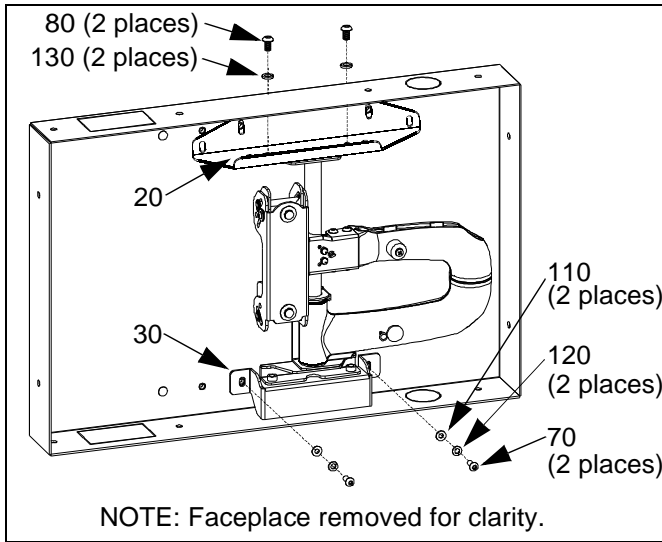
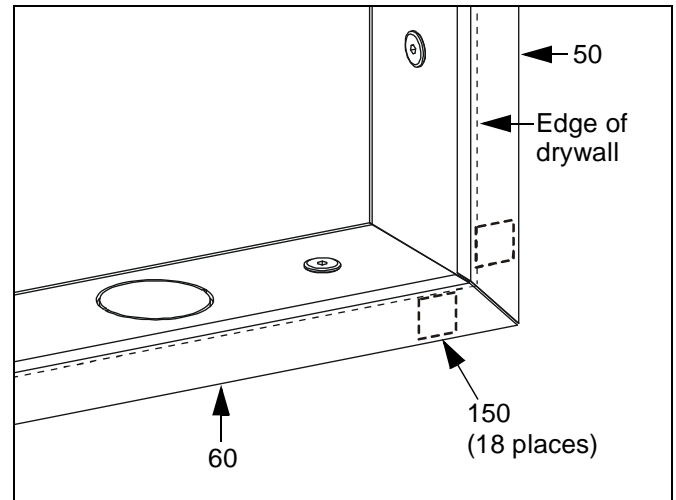
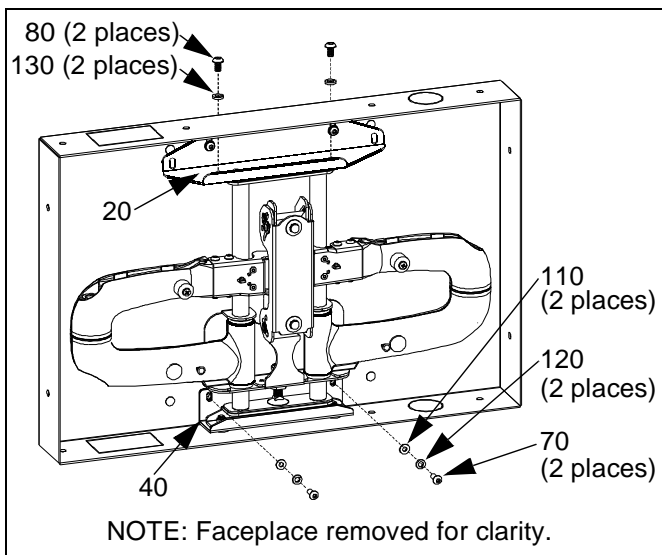

Figure 10: Install MWR/PWR Mount
Figure 12: Install Moulding
Figure 11: Install PNR Mount
8. To gain access to fastener holes for next steps, hold lower mount bracket (30 or 40) and pull mount faceplate out from housing (10).
9. Attach mount assembly to upper bracket (20):
- MWR/PWR mount: Using key (170), install screws (80) and washers (130) through *inner* holes of bracket (20) into mount assembly (See Figure 10). Ensure mount assembly is offset to the right of housing (10). Tighten securely.
- PNR mount: Using key (170), install screws (80) and washers (130) through *outer* holes of bracket (20) (See Figure 11). Ensure mount assembly is centered in housing (10). Tighten securely.
11. Using key (170), install screws (70), washers (120), and washers (110) through lower bracket (30 [MWR/PWR] or 40 [PNR]) into housing (10) (See Figure 10) or (See Figure 11). Tighten securely.
12. Install covers (160) to unused threaded holes in back wall of mount (10).
13. Finish housing (10) edge gaps:
- Moulding (50) and (60) may be installed. First apply tape (150) to inner surface of long leg of moulding, then press moulding into place (See Figure 12).